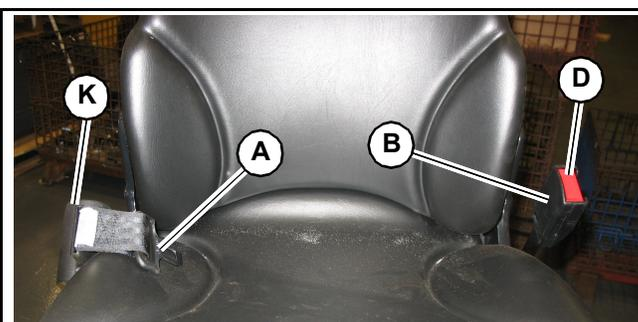

Fig. 50 – Seat Belt
Fasten the seat belt around your hips and waist and insert tongue (A, Fig. 50) into clasp (B) until it clicks securely in place. Slack in the seat belt should automatically retract into seat belt spool (K).